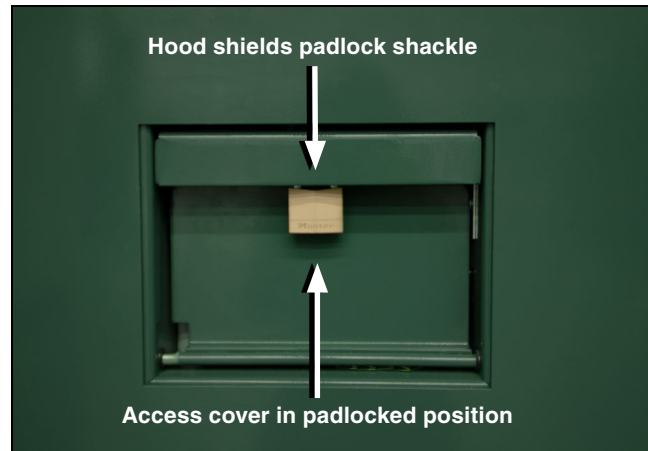

Figure 10. The access cover padlock.
- STEP 1.** Remove the padlock and open the switch's operating shaft access cover. See Figure 10.